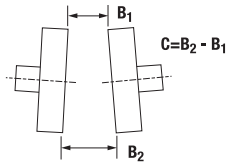

Figure 3
If precision equipment is not available, scales, straight edges, and calipers can be used as less accurate means of alignment. If using a scale or calipers, refer to Figure 3 and check the angular misalignment by measuring dimension “B” at four places 90° apart. Adjust the equipment until the four measurements do not vary more than value “C” in Table 1. If using a straight edge, check the parallel offset by laying the straight edge across the outside diameter of the flanges in four places 90° apart. The gap between the flange and straight edge should not exceed 1/32” (0.79mm). To achieve maximum coupling performance, align the coupling as accurately as possible during initial installation.
If precision equipment is not available, scales, straight edges, and calipers can be used as less accurate means of alignment. If using a scale or calipers, refer to Figure 3 and check the angular misalignment by measuring dimension “B” at four places 90° apart. Adjust the equipment until the four measurements do not vary more than value “C” in Table 1. If using a straight edge, check the parallel offset by laying the straight edge across the outside diameter of the flanges in four places 90° apart. The gap between the flange and straight edge should not exceed 1/32” (0.79mm). To achieve
- Align flanges using precision equipment such as dial indicators or laser equipment. If precision equipment is not available, scales, straight edges, and calipers can be used as less accurate means of alignment. If using a scale or calipers, refer to Figure 3 and check the angular misalignment by measuring dimension "B" at four places 90° apart. Adjust the equipment until the four measurements do not vary more than value "C" in Table 1. Repeat the procedure at both ends of the coupling. To achieve maximum coupling performance, align the coupling as accurately as possible during initial installation.